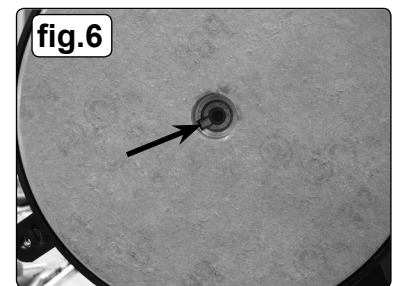

fig.6
- 6.7.3. The Woodruff Key can now be seen, (fig.6). When refitting the disc plate you must align the groove in the disc with the Woodruff Key.